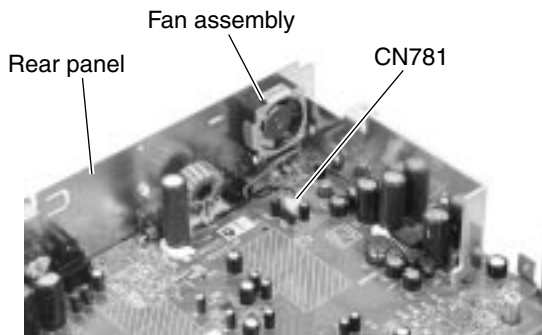

Fig.16
■ Removing the fan assembly (See Fig.16 and 17)